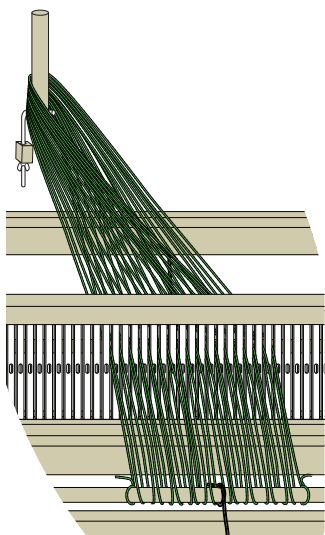
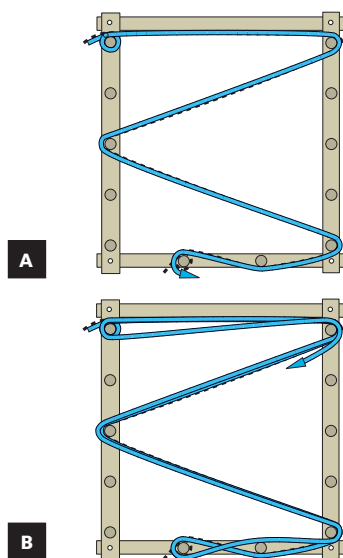
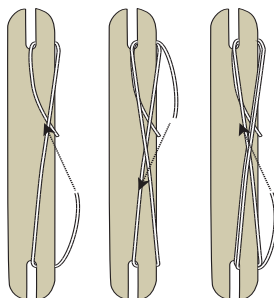

FIGURE 8: ALL SLOTS THREADED
FIGURE 13: MEASURE THE WARP
FIGURE 20: WIND A SHUTTLE
Cross: The figure 8 made at one end of the warp when measured on a warping board. It keeps the warp ends in order and helps prevent tangles.
8. Cut off the yarn from the ball or cone and tie to the back apron bar (Figure 8).
4. Tie the warp yarn to the starting peg. Follow the guide string to the cross pegs. Wind a figure 8 around these pegs, as in Figure 13—this forms the cross to keep the warp ends in order. Follow the guide string back to the starting peg.
5. Continue winding from the starting peg to the cross pegs and back, until the total number of warp ends are measured (Figure 13). Every loop around the starting peg equals 2 warp ends. Cut the yarn and tie it around the starting peg.
You will need a shuttle for weaving. A stick shuttle about the same width as your warp works well on the rigid heddle loom. Wind the weft yarn around the shuttle in a figure 8. You can wind along one edge or both edges of the shuttle (Figure 20).